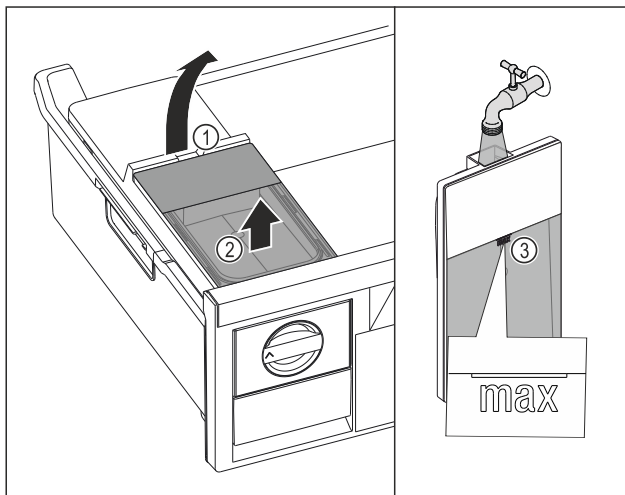

Fig. 71
- ▶ Lift the water tank at the recess Fig. 71 (1).
- ▶ Remove the water tank by lifting it upwards. Fig. 71 (2)
- ▶ Fill the water tank with drinking water up to the mark Fig. 71 (3).